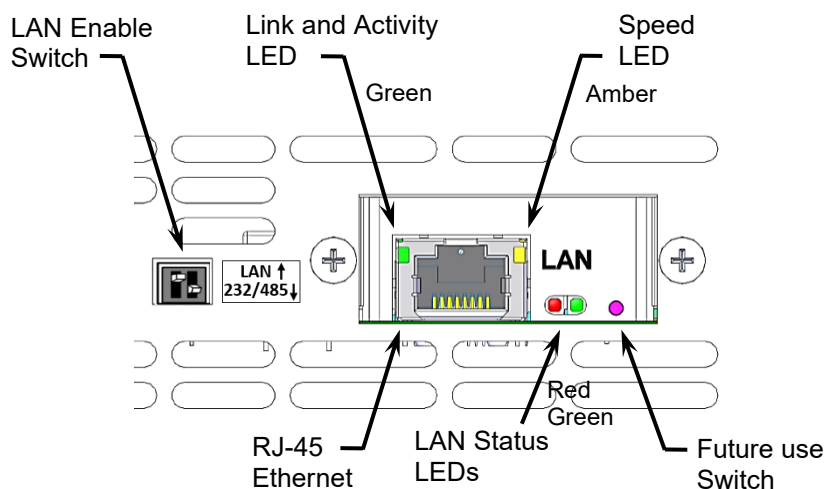

Figure 3. Rear Panel LAN Features
- B. Set the LAN card switches pin1 and 2 to DOWN (see Figure 3).
- B. Set LAN Enable Switch as seen on Figure 3. Left Switch set to up position. Right Switch is not used (recommendation – keep Right Switch in down position).